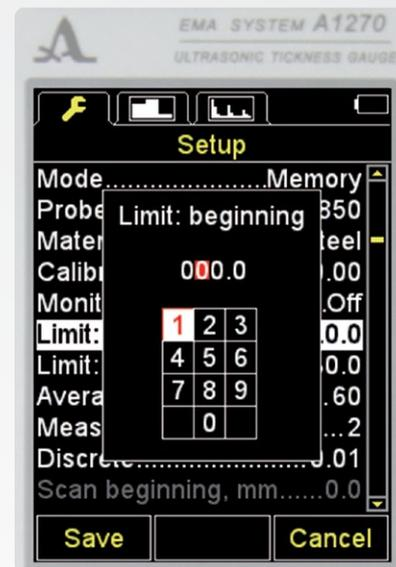

Figure 34
– open the table with numbers to set of the lower actuation boundary of the ASD (Figure 34).